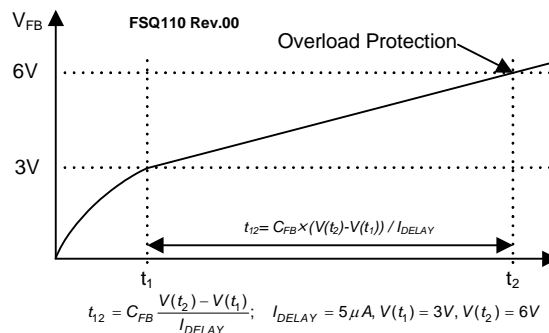

Figure 15. Overload Protection (OLP)
4.1 Overload Protection (OLP): Overload is defined as the load current exceeding a pre-set level due to an unexpected event. In this situation, the protection circuit should be activated to protect the SMPS. However, even when the SMPS is operating normally, the OLP circuit can be activated during the load transition. To avoid this undesired operation, the OLP circuit is designed to be activated after a specified time to determine whether it is a transient situation or a true overload situation. In conjunction with the I_{PK} current limit pin (if used), the current mode feedback path limits the current in the SenseFET when the maximum PWM duty cycle is attained. If the output consumes more than this maximum power, the output voltage (V_O) decreases below nominal voltage. This reduces the current through the opto-coupler LED, which also reduces the opto-coupler transistor current, increasing the feedback voltage (V_{FB}). If V_{FB} exceeds 3V, the feedback input diode is blocked and the 5μA current source (I_{DELAY}) starts to slowly charge C_{FB} up to V_{CC}. In this condition, V_{FB} increases until it reaches 6V, when the switching operation is terminated, as shown in Figure 15. The shutdown delay time is the time required to charge C_{FB} from 3V to 6V with 5μA current source.